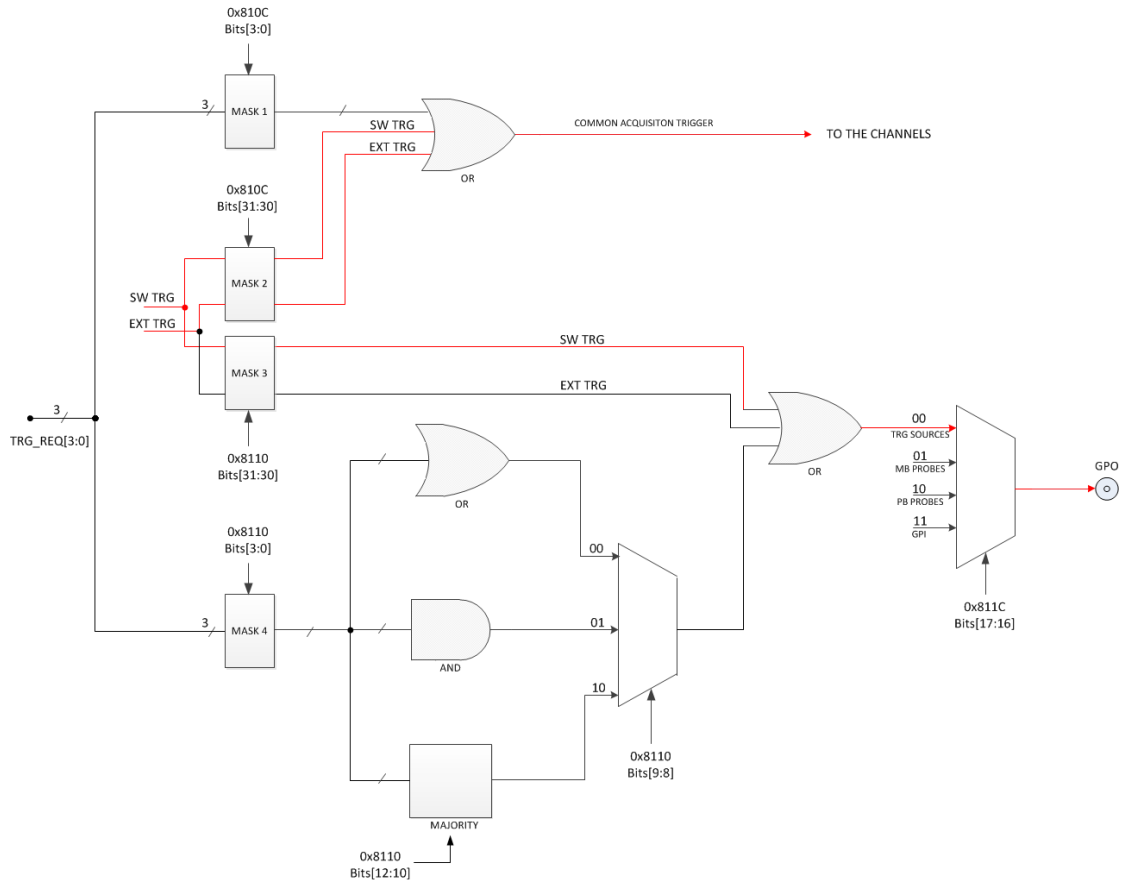

Fig. 9.17: Trigger configuration on GPO front panel output connector
As described in § **Trigger Management**, the OR of all the enabled trigger sources, synchronized with the internal clock, becomes the common trigger of the board that is fed in parallel to all channels, consequently provoking the capture of an event. By default, only the Software Trigger and the External Trigger participate in the common acquisition trigger (refer to the red path on top of **Fig. 9.17**).
A Trigger Out signal is also generated on the relevant front panel GPO connector (NIM or TTL), and allows to extend the trigger signal to other boards. Thanks to its configurability (see **Fig. 9.17**), GPO can propagate out:
- the OR of all the enabled trigger sources (only the Software Trigger is provided by default, as in the red path of **Fig. 9.17**);